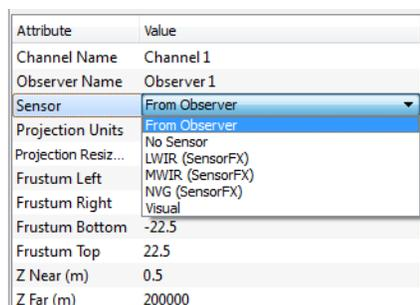

Figure 1-2. Sensor list
4. Select a sensor from the list (Figure 1-2).